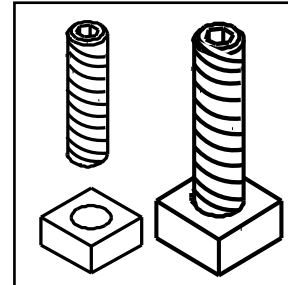

Figure 22.2
8. Thread Allen bolts through nuts until flush (**Figure 22.2**).